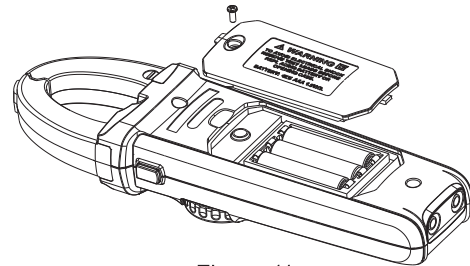

Figure 11
**X. Maintenance and upkeep (see Figure 11)**